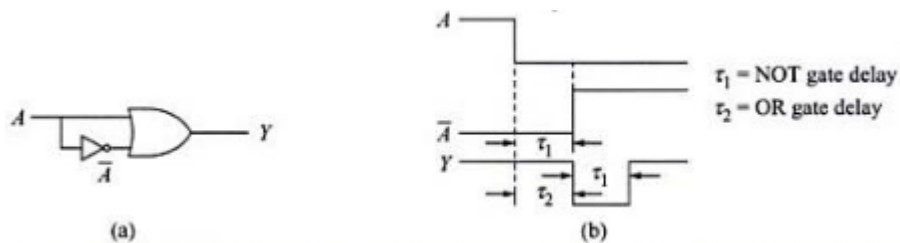

Figure 3.34: Static-1 hazard
- In a combinational circuit, if output goes momentarily 0 when it should remain a 1, the hazard is known as *static-1 hazard* (Figure: 3.34).